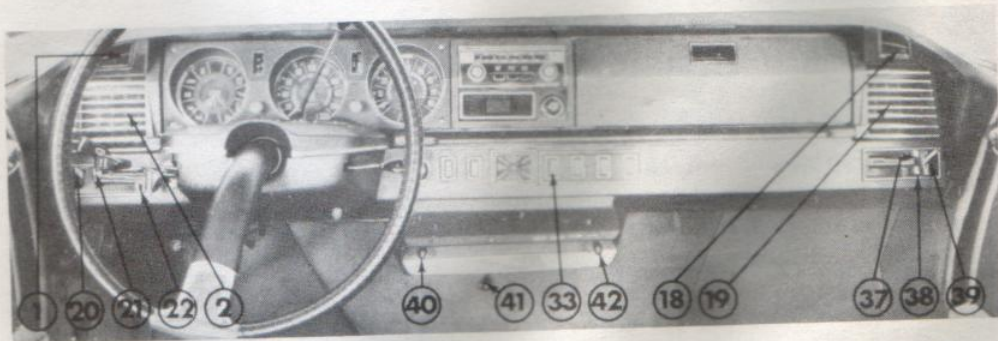

fig. 42
To control the flow of fresh air, use the levers **21** and **37** (fig. 42).
To divert the fresh air, use the levers **20** and **39** (fig. 42.)
- Moved to the left, the levers **22** and **38**, increases the flow of air (fig. 42).
The lever 42 fig. 42 varies the amount of air entering the car through the heating system. Moved to the left, the greatest volume of air enters car; toward the right, the smallest volume of air enters. Moved to extreme right, no air enters.
NOTE: It is inadvisable to use the blower when following a vehicle emitting excessive exhaust smoke. At each end of the dashboard additional outlets 1 and 18 fig. 42 serve to defrost or demist the front door windows.